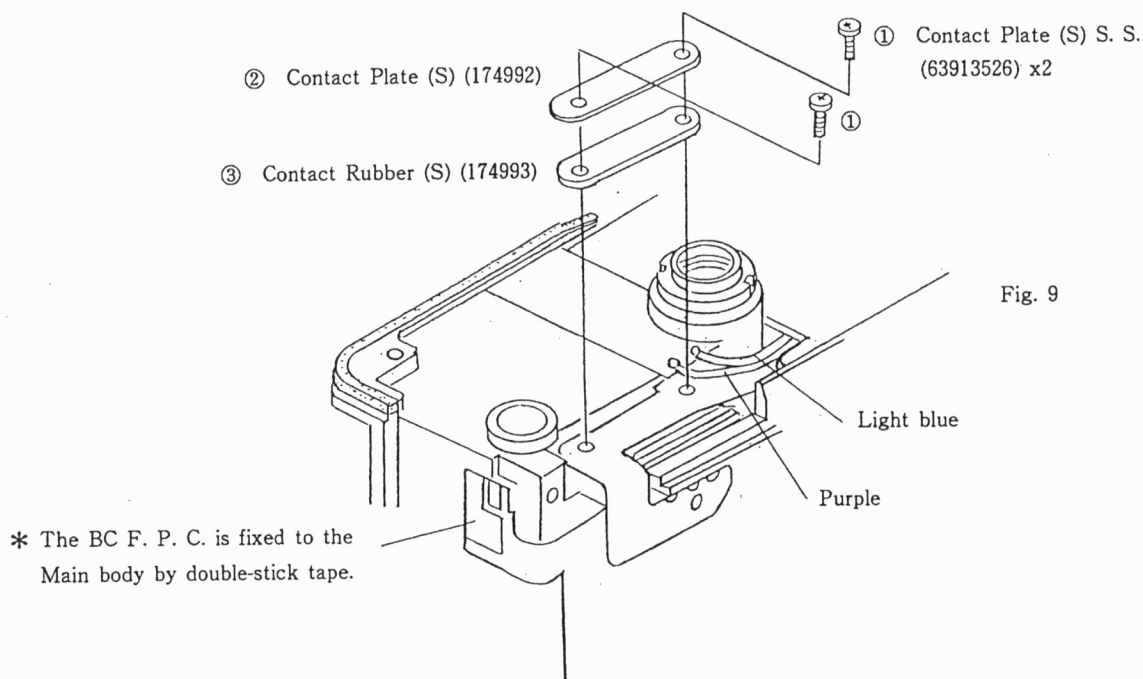

Fig. 9
- 10) Unsolder 7 soldered joints in ① and ② below.
- 11) Remove the respective parts ①~③ shown in (Fig. 9) in numerical order.